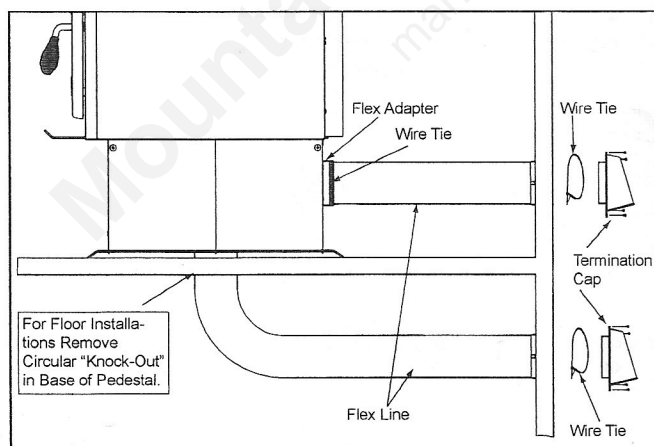

Figure 6 - Floor & Rear Installation
2. Using a #2 Phillips screwdriver attach the flex adapter to the appliance using 4 screws. Secure with wire tie. **Figure 6.**
5. **Floor Installation Alternative:** In some instances you may not be able to install the flex pipe as show in **Figure 6.**